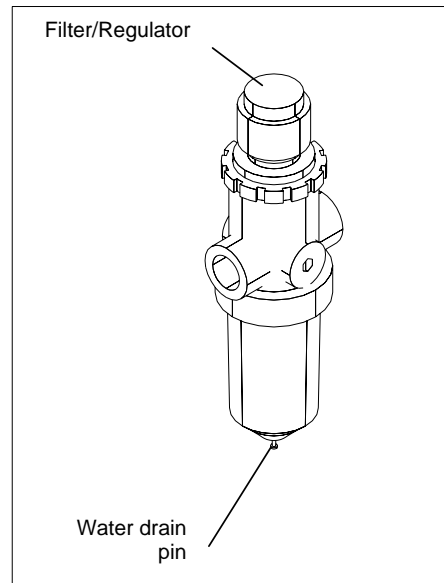

Figure 3
6. Drain water from filter/regulator at least weekly. Press the water drain pin up (See Fig 3).